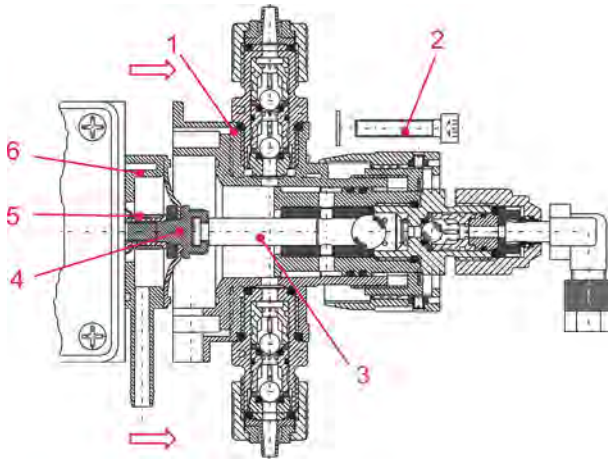

Fig. 87: Maintenance: Replacing the diaphragm and pump head
6. → Metering head screws (☞ *Chapter 11.2 'Replacing the diaphragm and pump head' on page 110, Fig. 87* (stable seat, 3 - 4 Nm).